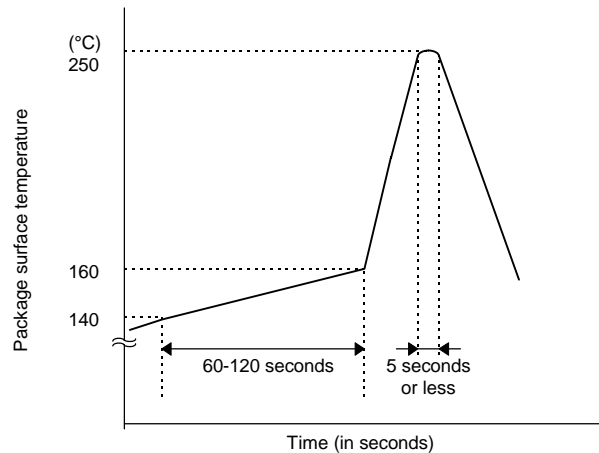

Figure 5 Sample temperature profile for solder flow
- Figure 5 shows an example of a recommended temperature profile for surface-mount packages using solder flow.